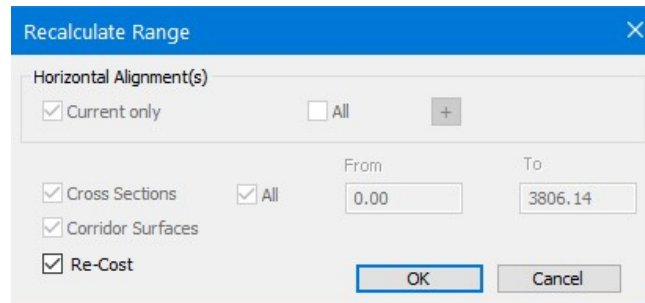

Figure 11-3: Recalculate Range Dialogue Box with the Re-Cost Option Set
10. Ensure the *Re-Cost* check box when prompted with the *Recalculate Range* dialogue box (Figure 11-3)